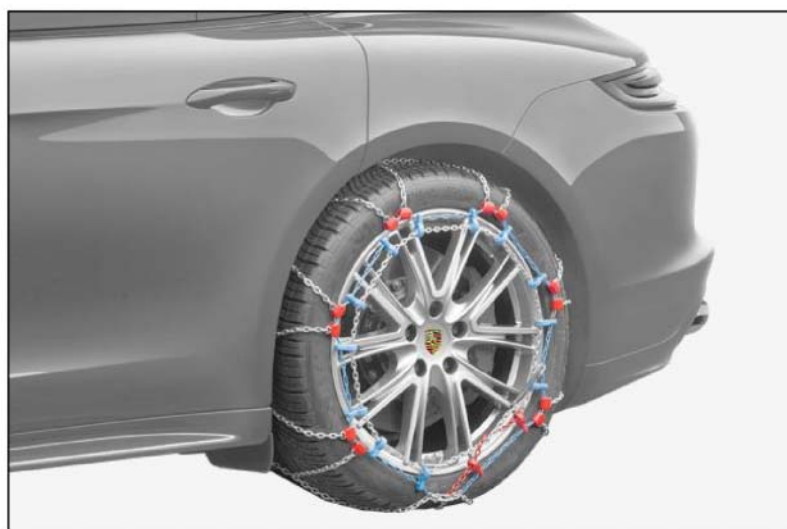

Figure 1
- have been tested and approved for the rear axle of the Panamera (⇒ Figure 1).